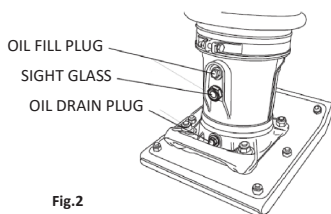

Fig.2
- Check the oil level through the oil level sight glass (Figure 2) at the rear of the tamper foot.
- If oil is not visible, add Mobil ISO VG46 or other oil with same standard into the oil fill plug opening (Figure 2). The bath contains approximately 1000 cc.